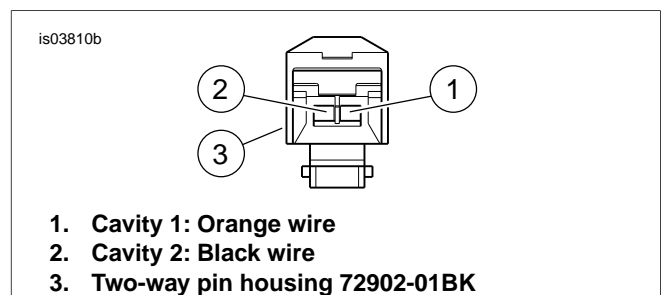
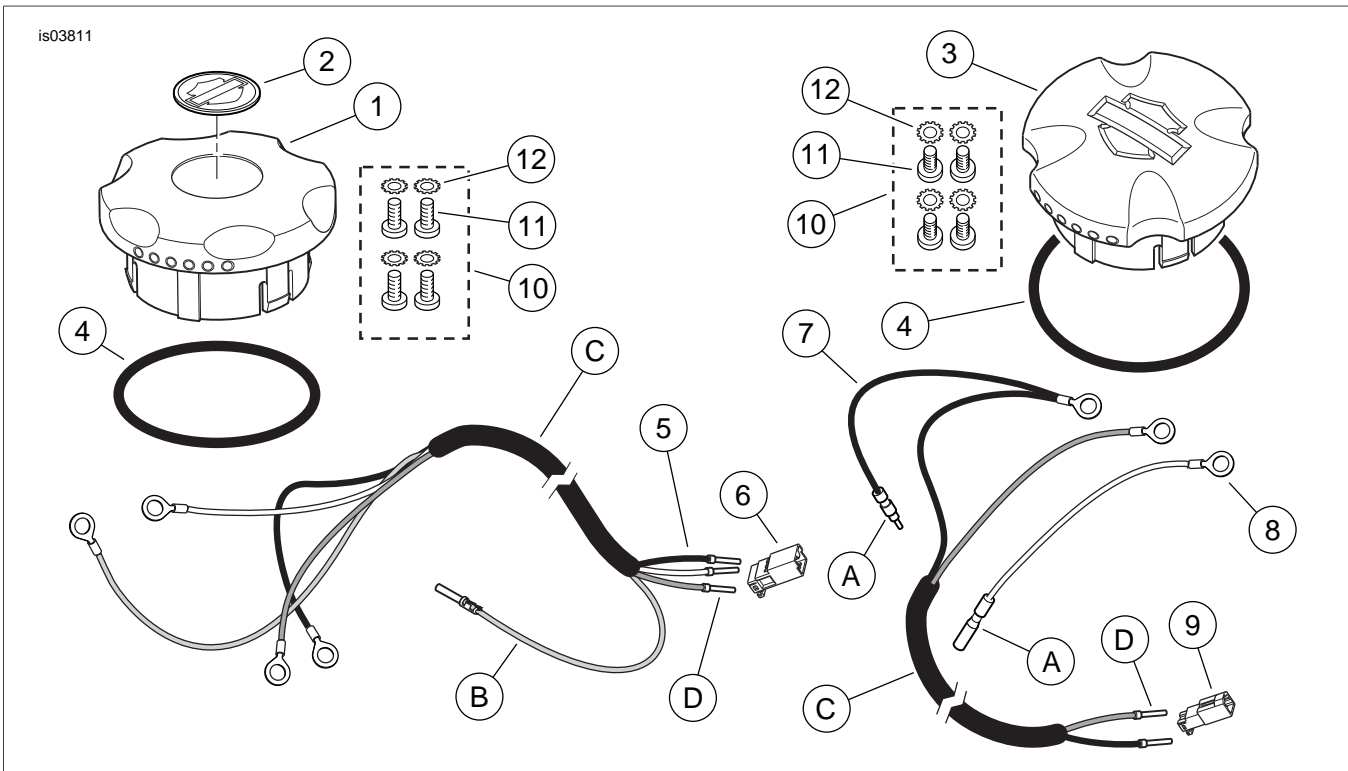

Figure 4. Two-Way Pin Housing (Viewed From Wire End)
Figure 5. Service Parts, LED Fuel Gauge Kits
1. See Figure 5. Obtain the **new** LED fuel gauge (1 or 3), O-ring (4), and wiring harness (5) from the kit.
- See Figure 5. While carefully lowering the fuel gauge, feed the wire harness down into the drain tube until the long Gray wire (B) and three short (Orange, Black, Yellow/White) wires exit the hole at the bottom of the fuel tank.
1. See Figure 5. Obtain the **new** LED fuel gauge (1 or 3), O-ring (4), wiring harness (7), and separate Yellow/White wire lead (8) from the kit.
4. See Figure 5. While carefully lowering the fuel gauge, feed the wire harness (7), and Yellow/White wire lead (8) down into the drain tube until the two longer (Black, Orange) wires with pin terminals (D) exit the hole at the bottom of the fuel tank. Connect the two shorter wires (Black and Yellow/White) to the sending unit connectors (see **Analog Fuel Gauge Removal**, Step 5).
For all other models: Install the two wires with pin terminals (D) into the correct cavities of the 2-way pin housing (Figure 5, Item 9) from the kit. See Figure 4 and the AMP MULTILOCK ELECTRICAL CONNECTORS, INSTALLING SOCKET/ PIN TERMINALS section in the Service Manual.